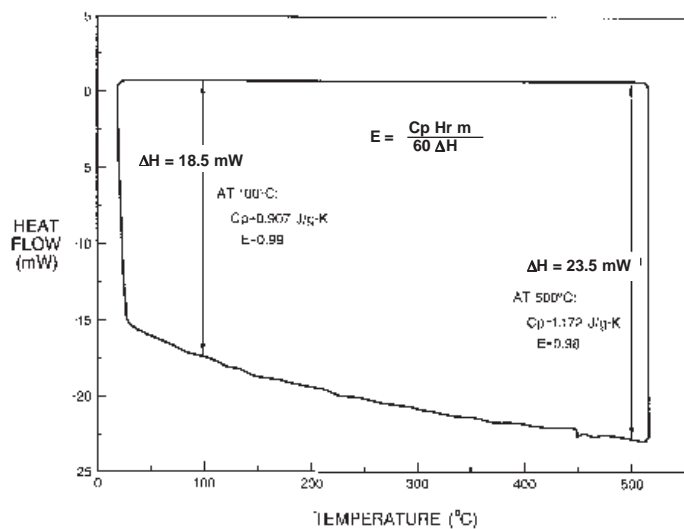

Figure 4.2
4. Calculate the specific heat by measuring the difference in y-axis displacement (calorimetric differential) between the sample and blank curves at any desired temperature (see Figure 4.2).